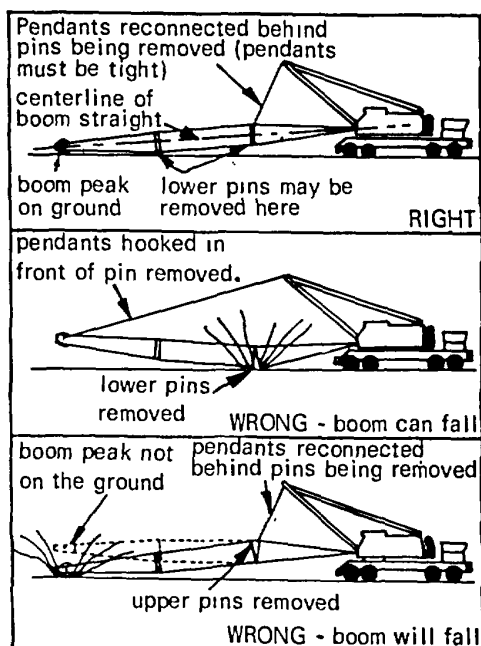

Fig. 32
- 33 Disassembly of any pin connected boom can be hazardous.** Removing the boom pins without reconnecting pendants behind the pins being removed can cause the boom to fall to the ground. If you are under the boom when it falls, you may be killed. Never remove boom pins unless boom peak is resting on the ground, and pendants are reconnected as shown in Fig. 32.